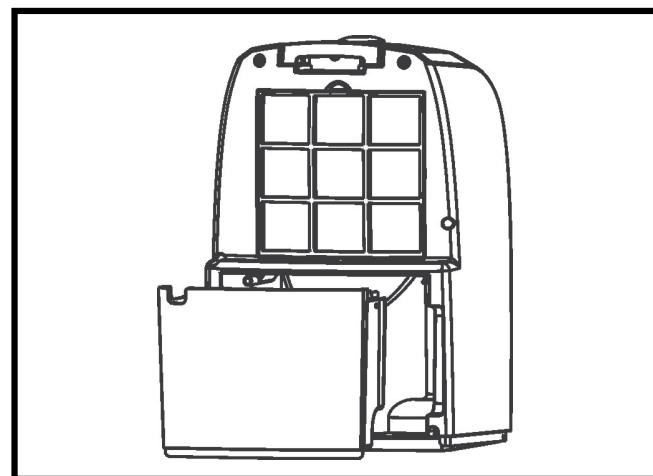

Fig. 4
1. Pull out the water tank (FIG. 4).